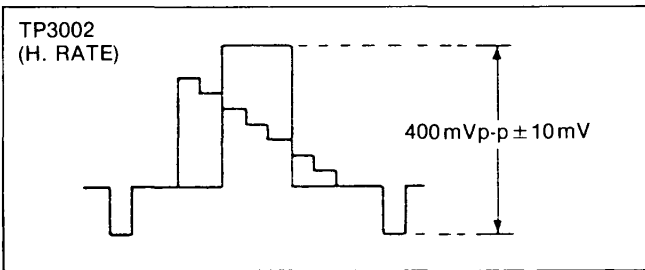

Figure E24
4. Adjust VR3001 for 400mVp-p ± 10mVp-p as shown in Figure E24.